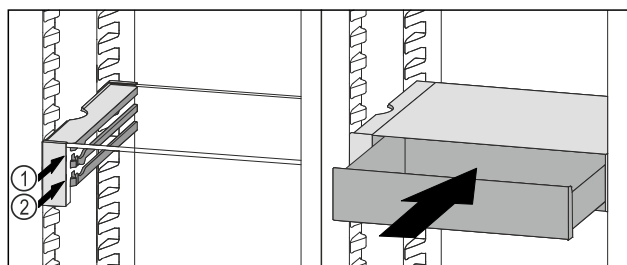

Fig. 103
- Place the VarioSafe drawer behind the stoppers on desired rib *Fig. 103 (1)* or *Fig. 103 (2)*.